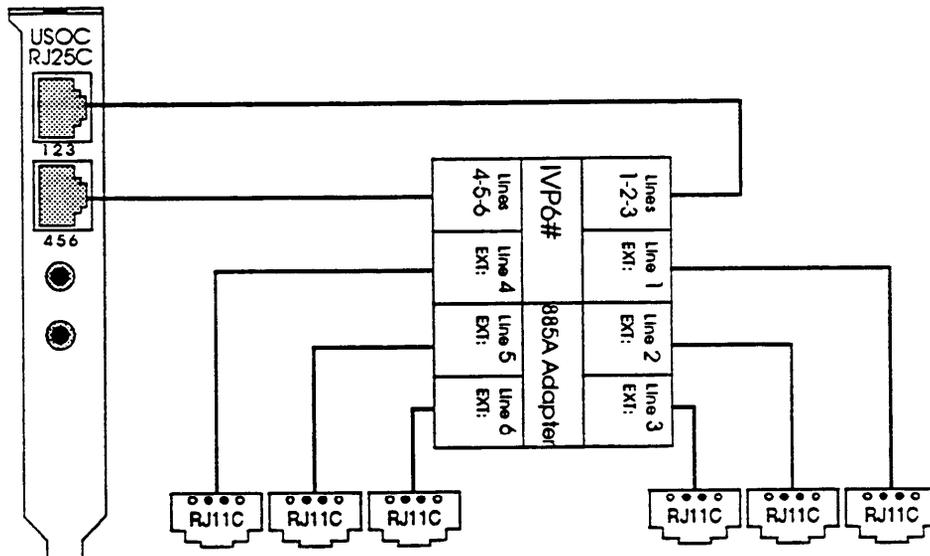

Figure 2-5. IVP6 Board with 885A Adapter for RJ11C
2. Use a type 885A adapter to consolidate the six individual line pairs into three pairs in each of two cables. (See Figure 2-5.)